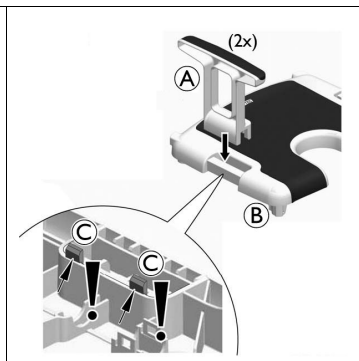

Fig. 4
## 10 Assembly and Setup (Fig. 4 - 9)
### Fitting the Armrests (Fig. 4)
1. Drop armrests **A** into seat plate **B** on both sides, see Fig 4.
– Ensure that both catches **C** in each armrest audibly engage on the underside of the seat plate, see Fig 4.